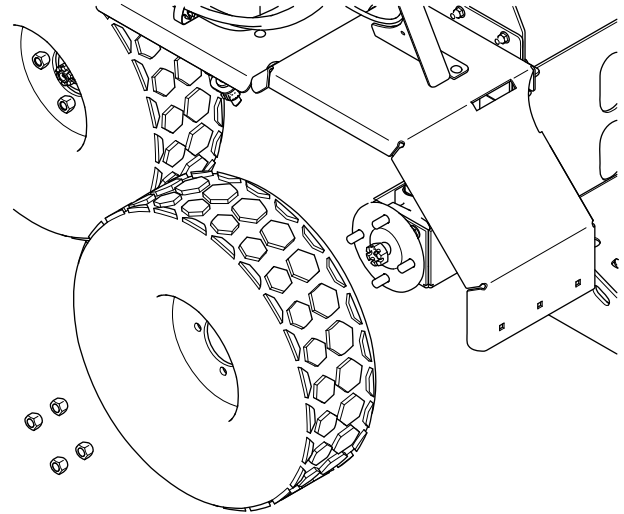

Figure 1
3. Remove the fasteners securing the rear tires to the machine and remove the rear tires (Figure 1).